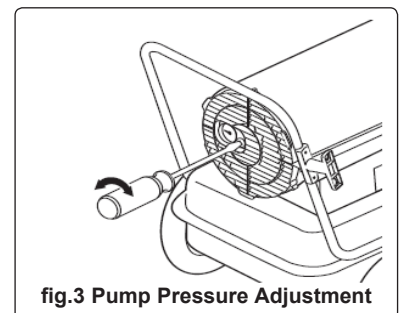

fig.3 Pump Pressure Adjustment
5.1.5 The pump pressure should be +/- 10% of the pressure stated in the specification table above, if the unit is running outside of this tolerance, adjust the pressure as shown in fig.3.